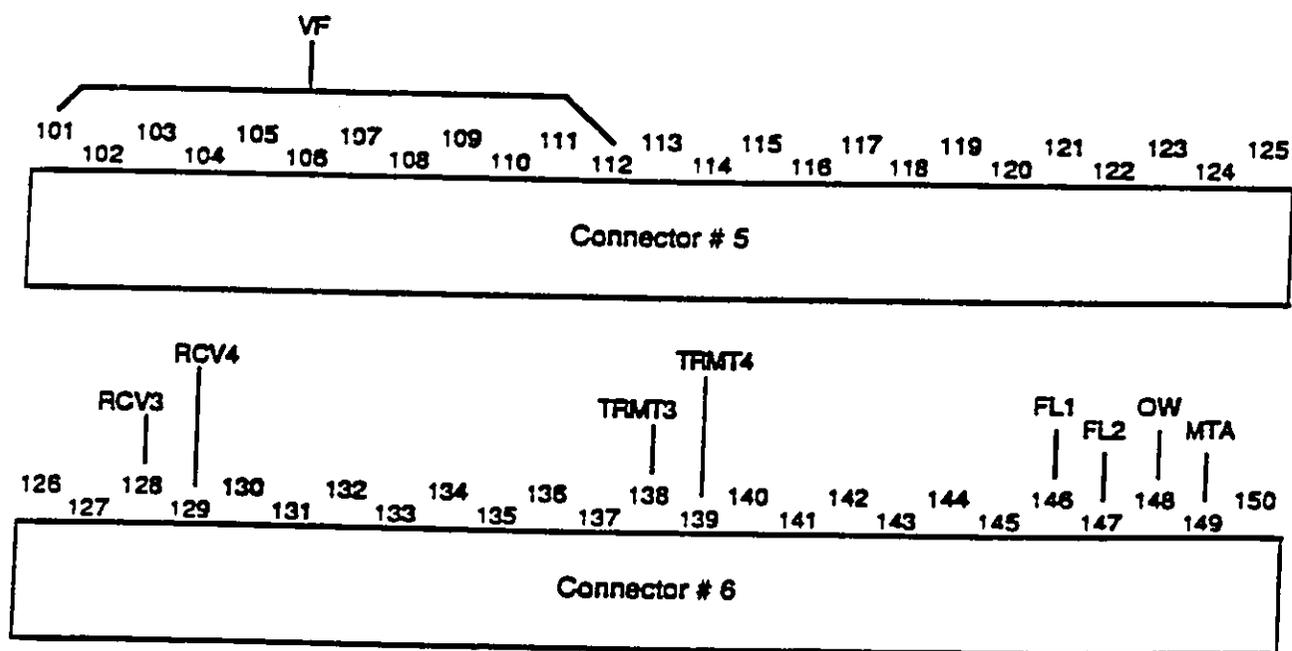

Fig. 2-18
- 2 DS1, maintenance, and other miscellaneous pairs should be terminated on connectors 5 and 6. Follow the same basic procedure as that for the VF-pair terminations (Chart 2-6). See Fig. 2-18 for DS1 and maintenance pair assignments.